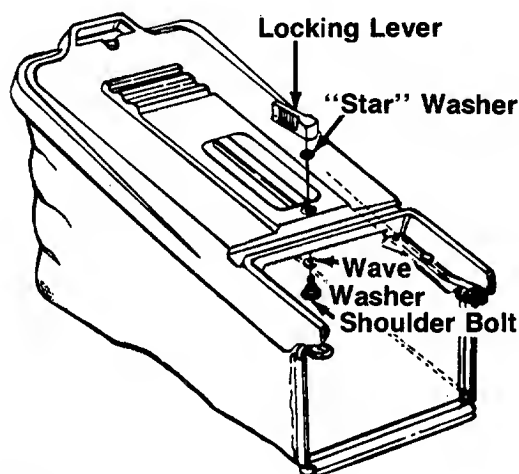

FIGURE 11.
- Insert shoulder bolt up through hole in hardtop cover as shown in figure 11. Place "star" washer over shoulder bolt.